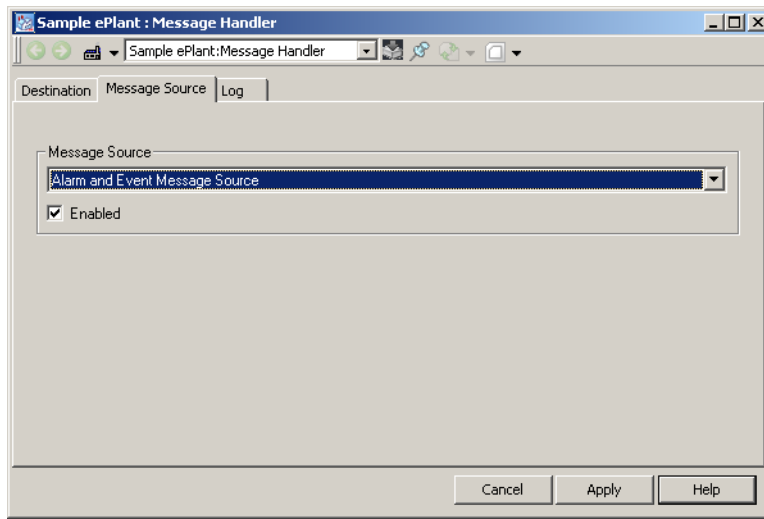

Figure 115. Message Handler - Message Source Tab
5. Select the **Message Source** tab and click the down arrow in the Message Source field. Select the desired Alarm and Event Message Source from the drop-down list box. This produces a view similar to the one shown in Figure 115. The **Message Source** tab allows for selection of the Alarm and